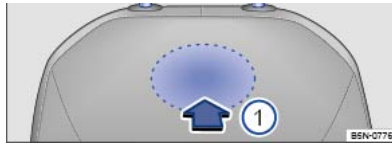

Fig. 90 Front head restraint: removing.
- To unlock it, feel for the recess in the marked area on the rear side and press in the direction of the arrow \Rightarrow Fig. 90 ①.
- Pull the head restraint out in the direction of the arrow \Rightarrow Fig. 90 ②.